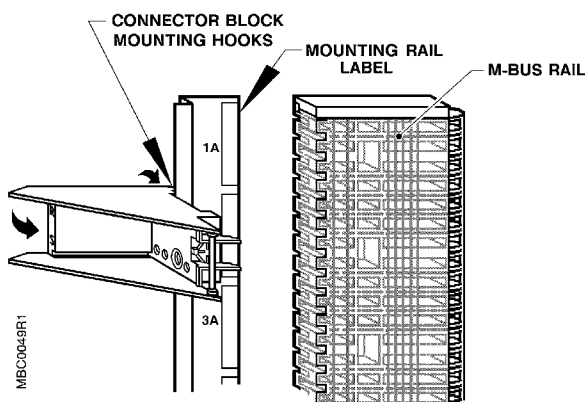
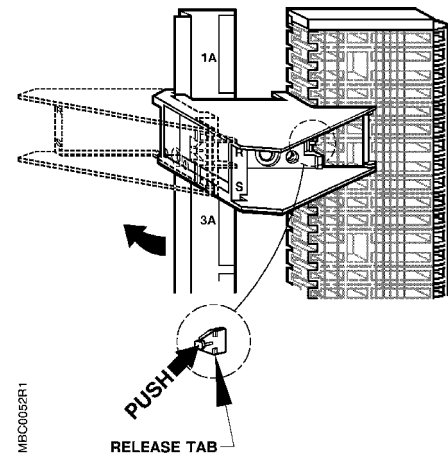

Figure 4. Installing a Connector Block.
Figure 5. Removing a Connector Block.
The block position number is printed on the mounting rail label as 1A, 2A, etc. (Figure 4).
5. Verify that the mounting guides on the connector block are aligned with the mating M-BUS rail slot (Figure 4 and Figure 5).
While pushing and holding the release tab toward the mounting rail, rotate the block out of the M-BUS rail (Figure 5).